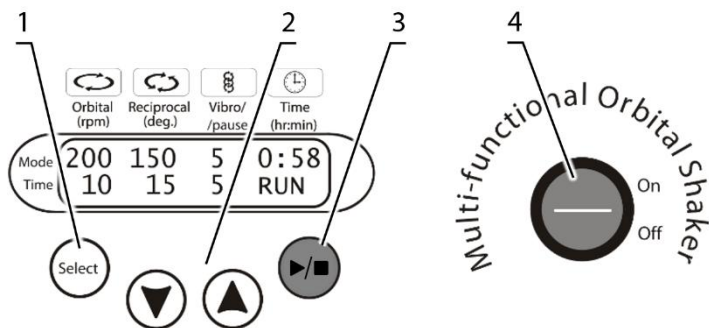

Figure 3. Control panel of PSU-20i
- 6.1. Connect the external power supply to the mains and switch on the **Power** switch (fig. 3/4).
- 6.4. Press the ►/■ key (fig. 3/3) to start the program. The platform motion starts, the indication RUN, and the changing time values are shown on the display.
7.3. To do so, press the **Select** key (fig. 3/1) to choose the parameter to change. Each pressing of the **Select** key consecutively activates the parameters. The active parameter is flashing. Use the **▼** and **▲** keys (fig. 3/2) to set the necessary value. Pressing the key for more than 2 s increases the speed of value change.